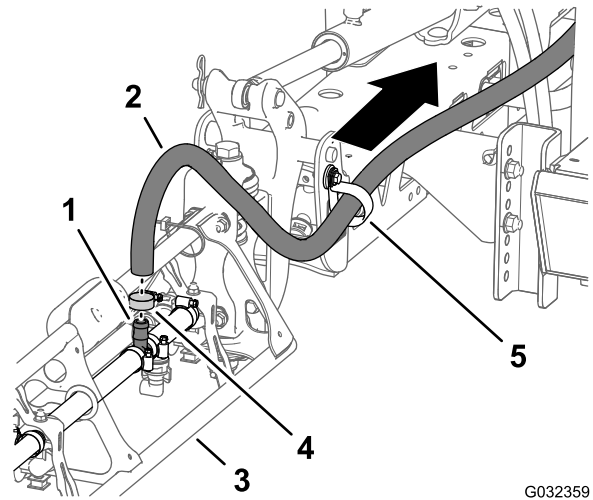

**Figure 36**
3. For machines **with** the ExcelsaRate sprayer system, remove the flange clamp and gasket that secures the reducer adapter to the left boom-section valve (Figure 36).